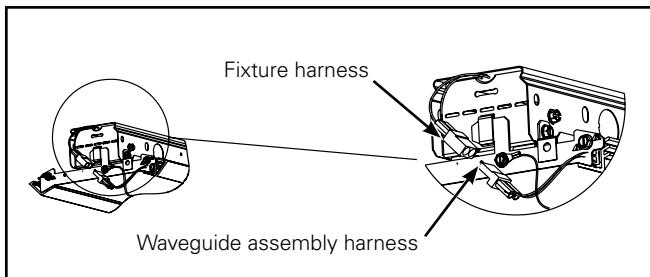

Figure 5.
5. Connect LED wire harness on each end of the waveguide assembly. (Figure 5.)